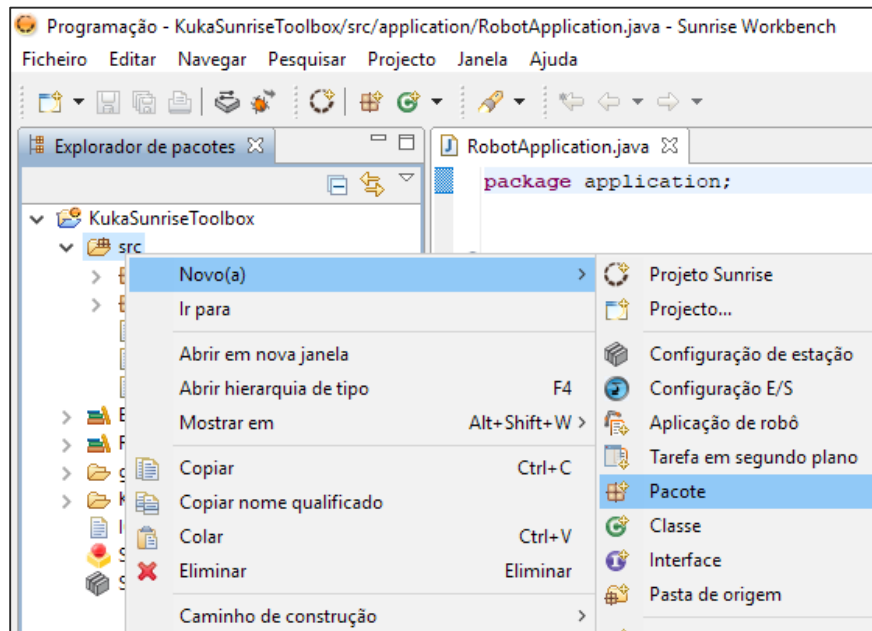

Figura 2 Create new package
- 3- Then create a new package by right clicking on the **src** folder, from the drop down menu click on **new**, then click on **package** as shown in Figura 2 (in Portuguese).